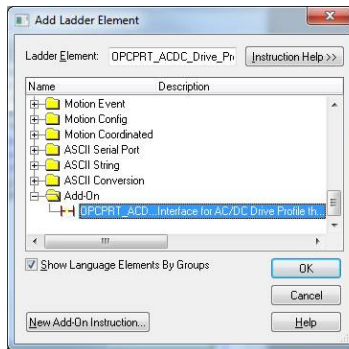

Figure 47: Add AC/DC Drive Profile Add-On Instruction
- 8) Select the AC/DC drive profile add-on instruction in the Add-On folder. Refer to Figure 47.